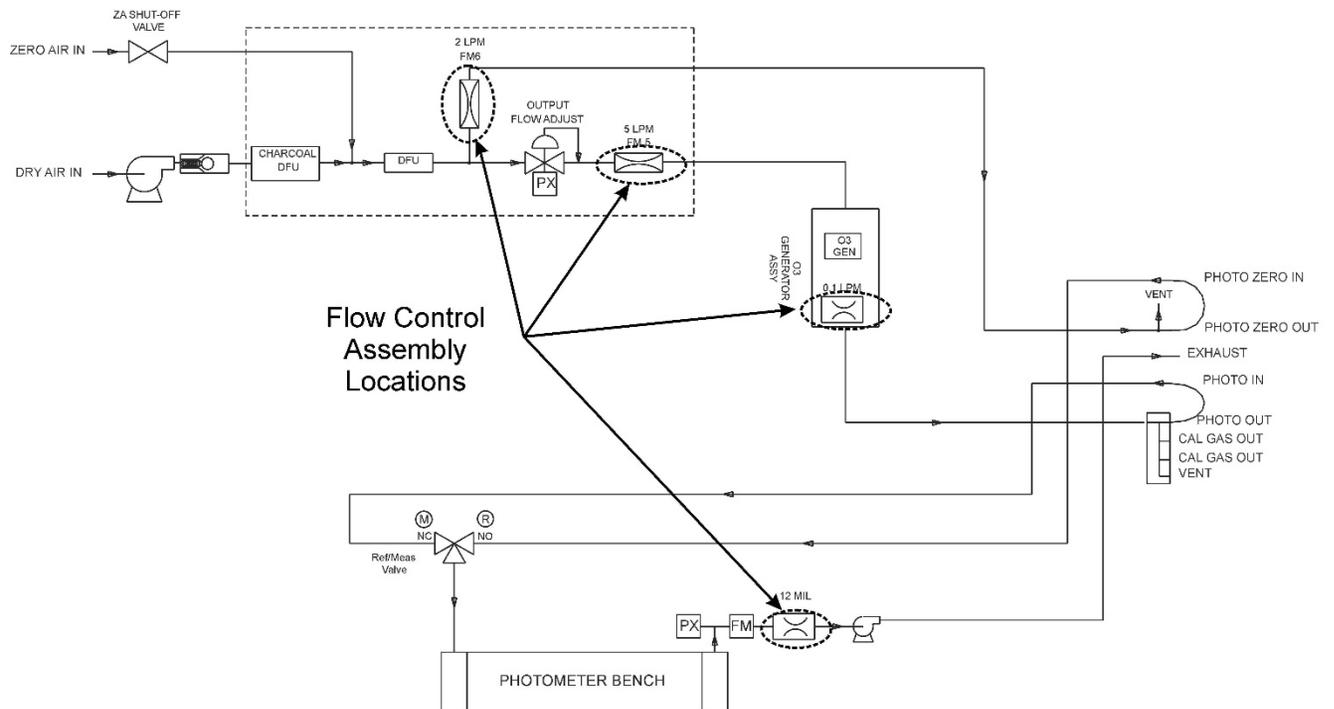
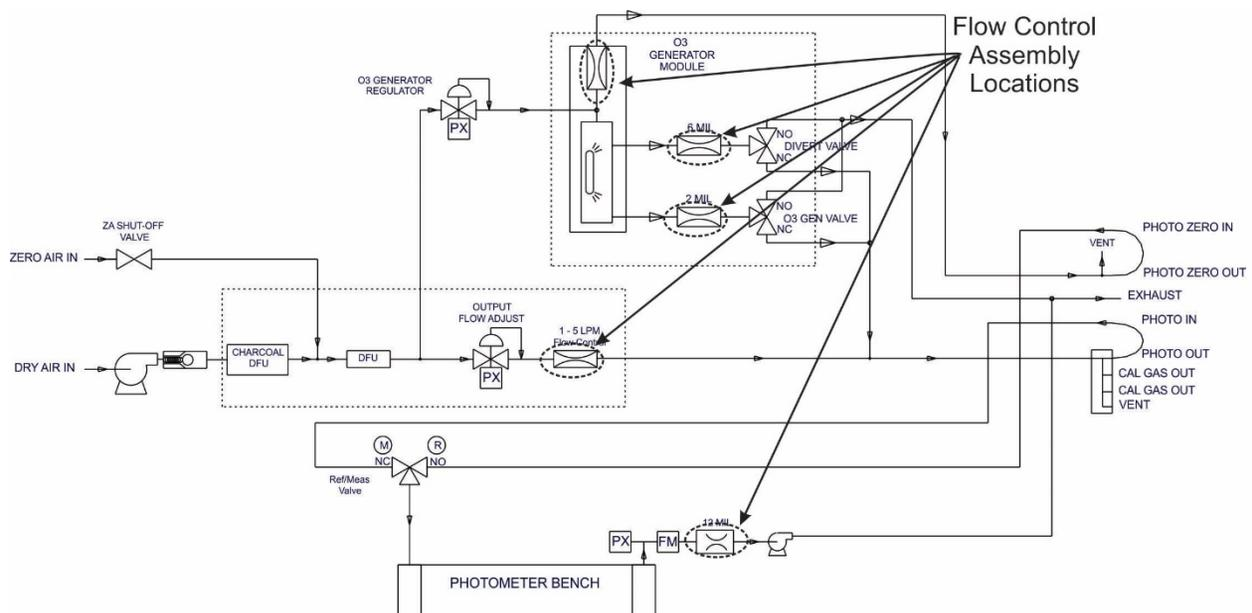

Figure 9-1. Location of Gas Flow Control Assemblies - T703
Figure 9-2: Location of Gas Flow Control Assemblies - T703U
2. Locate the assembly to be repaired, see Figure 9-1 (T703) or Figure 9-2 (T703U).
Gas flow rates are set by various flow control assemblies in the gas stream(s), locations indicated in Figure 9-1 Figure 9-2.